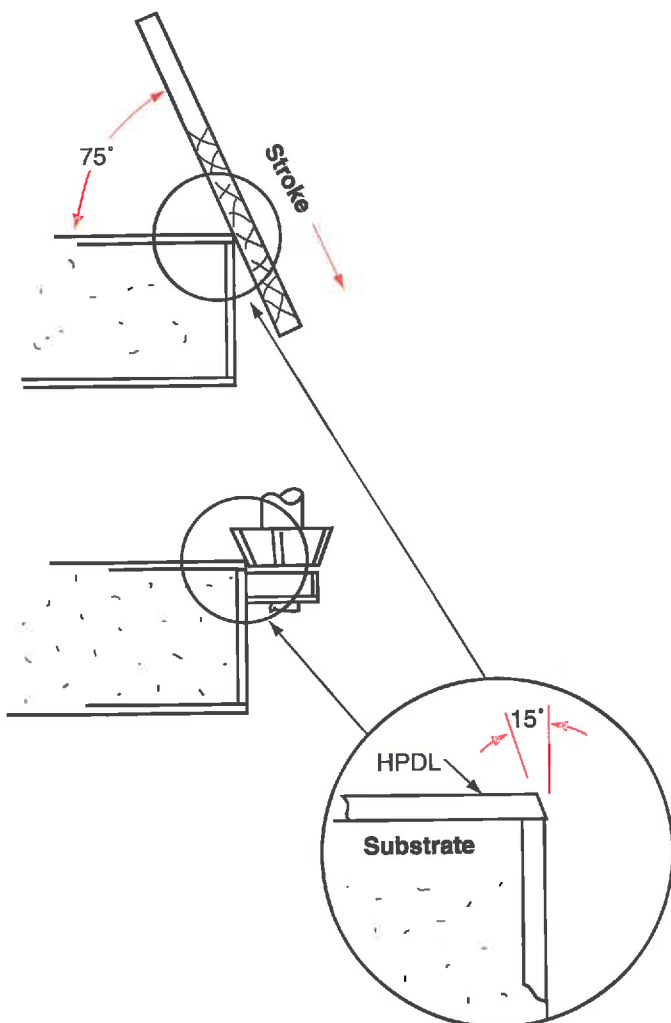

Figure 36-17. Bevel the surface laminate 15° with a mill file or bevel cutter bit installed in a laminate trimmer. (Chuck Davis Cabinets)
11. Bevel the corner about 20°. This can be done with a router or file. See **Figure 36-17**. Beveling removes the sharp corner and extends the wear life of the laminate edge.